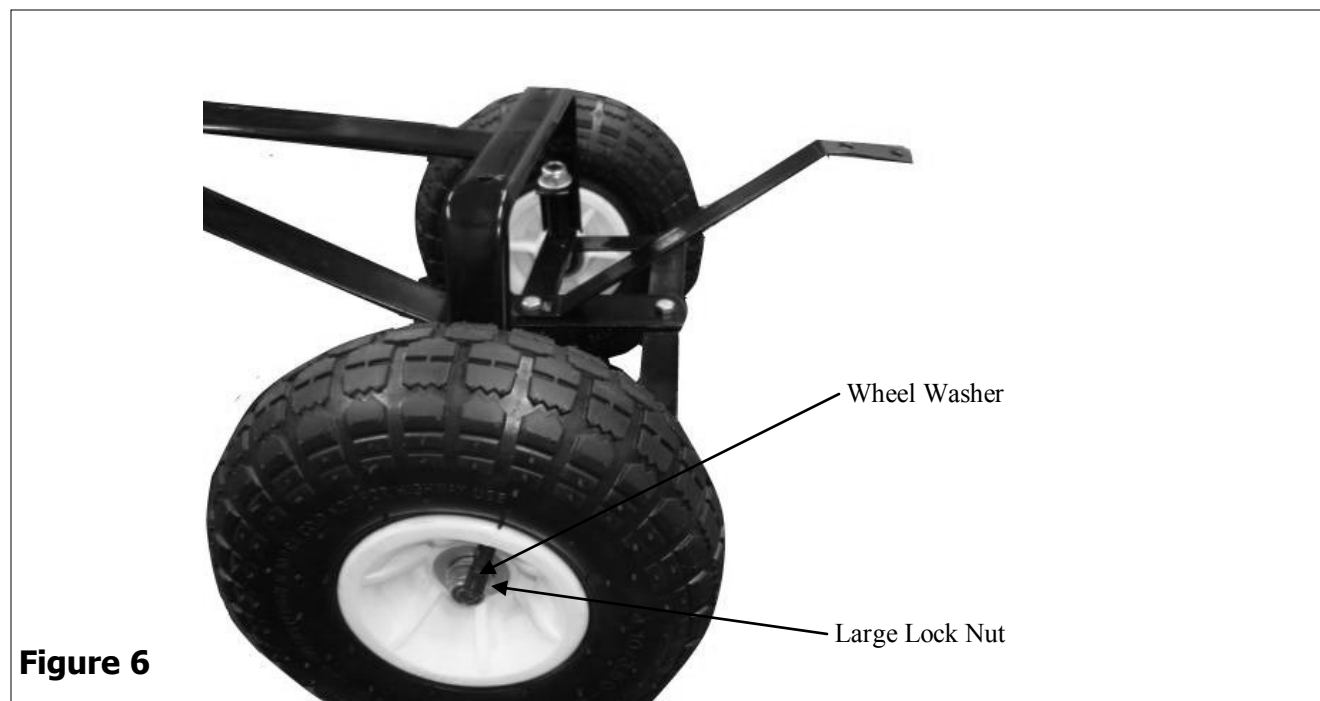

Figure 6
7. Slide Wheel onto the extended threaded ends of the Front Axle Support. Secure Wheels with Wheel Washer and Large Lock Nut. See figure 6